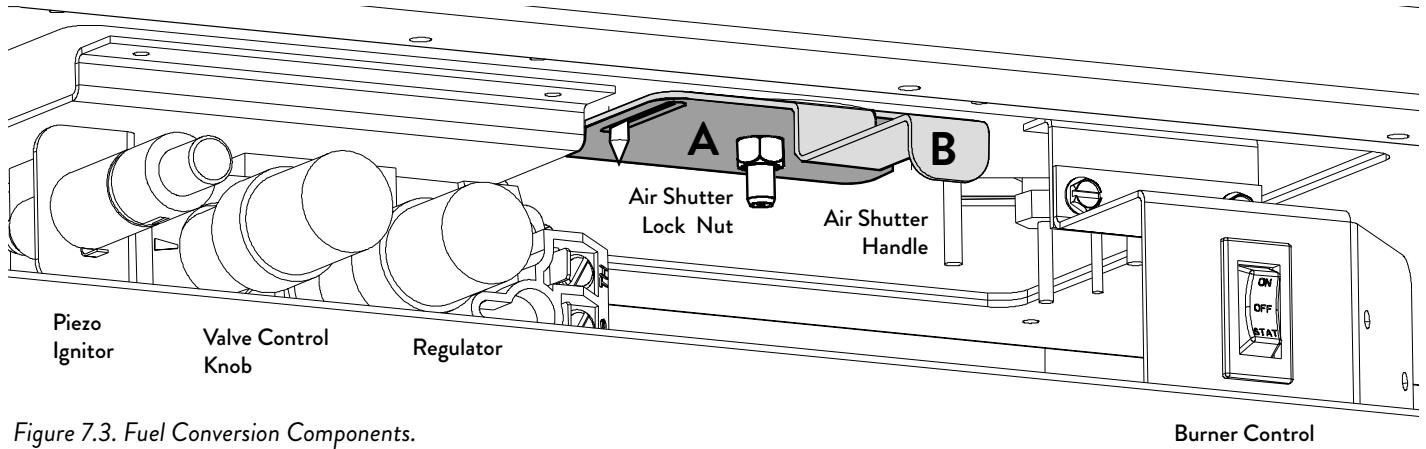

Figure 7.3. Fuel Conversion Components.
5. **CHANGE THE VARIABLE REGULATOR TOWER** on the gas control valve. See fig. 7.3.